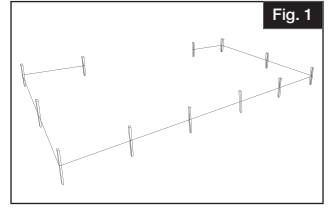

Fig. 1
- Establish your fence line by staking out the areas you wish to enclose. Locate each point in which you will need an end, corner or gate post and mark it with a stake (Fig. 1).